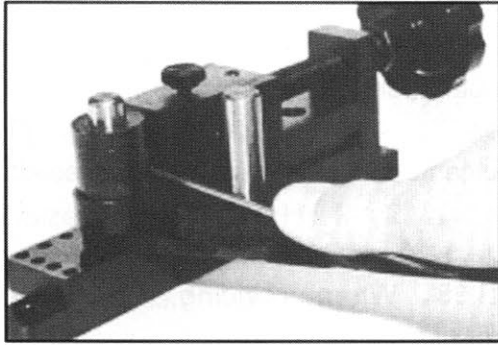

Figure 1
2. Put the material you wish to bend in between the selected shaft and the Vise (#6) and clamp it down as shown in Figure 1.